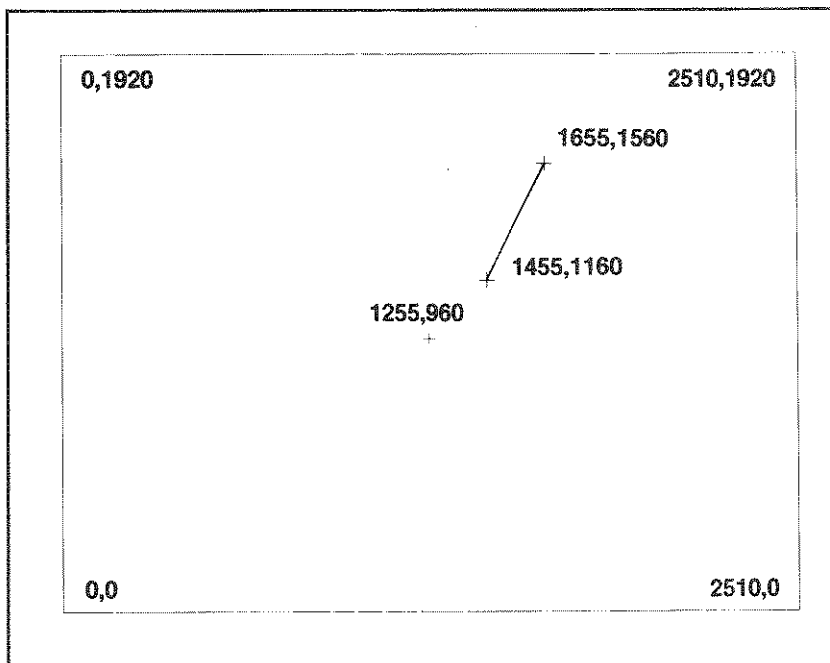

Figure 3-4. Move relative (MR) and draw relative (DR) commands
To start at a common point for this example, the move absolute (MA) command moves the pen to the center of the drawing area (1255,960). The second command is a move relative (MR) command that moves the pen, without drawing, 200 units in the X direction and 200 units in the Y direction. The new location of the pen is 1455,1160. The last command, a draw relative (DR) command, then draws a line to a point that is 200 units in the X direction and 400 units in the Y direction from the previous point. The pen location is now 1655,1560. Figure 3-4 shows how the plotter moves when it executes these three commands.